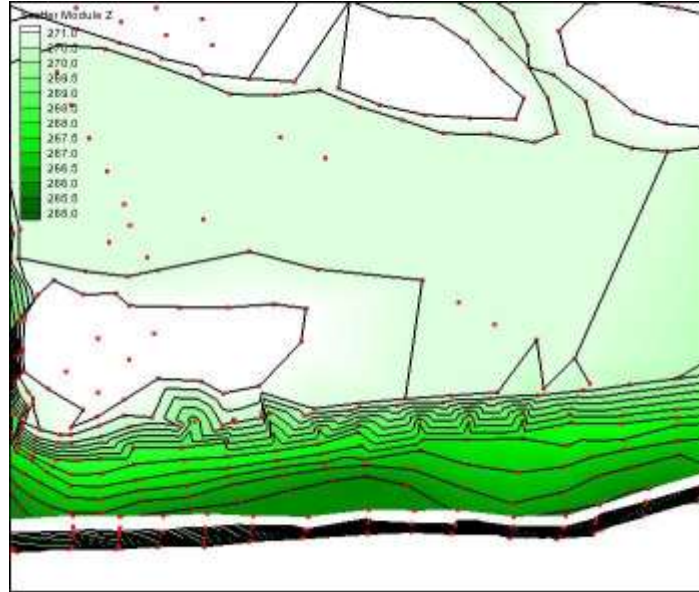

Figure 8 Angle (oblique) view of contours and points.
- In the *View* tab, toggle on *View angle* then set the *Bearing* to “30”, the *Dip* to “50”, the *Looking at point* to “(648700.0, 3984000.0, 2675.0)”, and the *Width* to “800”. Click **OK** to exit. The resulting view should be similar to that shown in Figure 8.